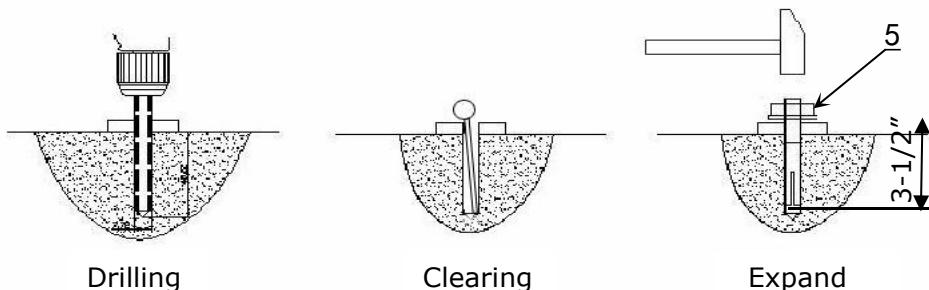

Fig. 16
2. Using the prescribed rotary hammer drill, and drill all the anchor holes and install the anchor bolts, do not tighten the anchor bolts first (See Fig. 16).